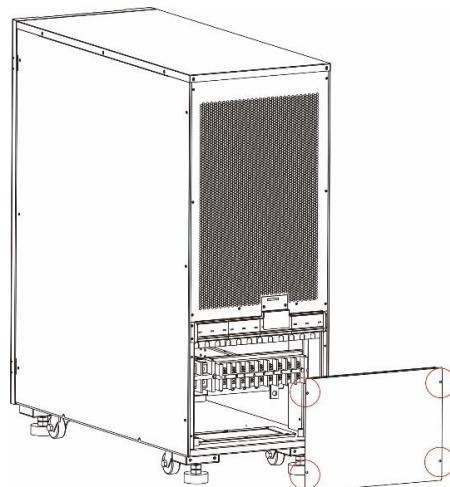

Fig. 3-7 Remove the cover of distribution unit (40/60 kVA)
Step 7: turn the wrench counterclockwise to raise the four support feet at the bottom of UPS until all the four wheels at the bottom of the case are evenly landed and the support feet are completely suspended. See Fig. 3-7.
Step 5: open the front door and remove the cover panel of the distribution unit, as shown in Fig. 3-6 and Fig. 3-7.
Step 1: remove the cover plate of distribution unit (80/100/120/160/200kVA) need to open the front door first), as shown in Fig. 3-6 and Fig. 3-7.